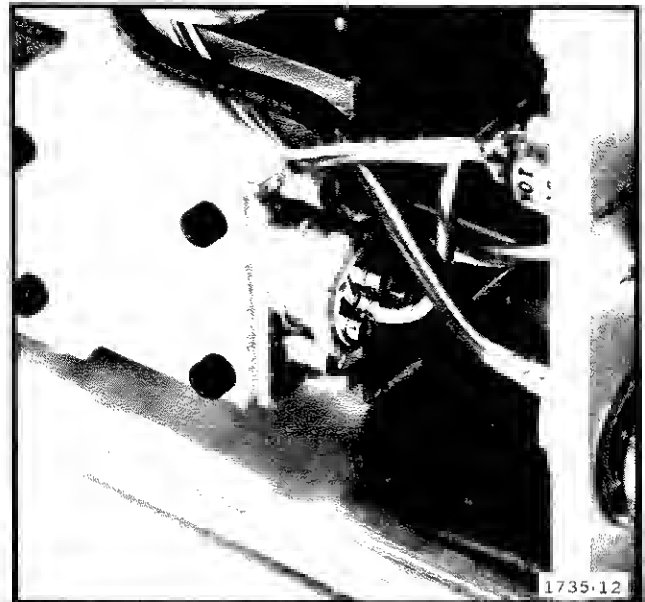

Fig. 6-7. Typical position for the mixer assembly in the 2.2 GHz filter assembly.
The filter assembly is pretuned at the factory so only slight adjustments are required after it is installed. The mixer affects filter response, therefore, if either assembly is replaced, retuning the filter and adjusting the mixer coupling will be required. The orientation of the mixer affects mixer balance and the suppression of a 2.2 GHz spur. If the mixer is positioned as shown in Fig. 6-7, the spur will usually be down 70 dB or more. If spurs should appear, adjust the orientation to minimize.
c. Remove the mixer assembly and install it in the replacement filter assembly. Position the mixer assembly as illustrated in Fig. 6-7.
i. Loosen the mixer clamp, so the coupling and orientation can be adjusted, then position the mixer as indicated in Fig. 6-7 (apex of the 3 screws up).